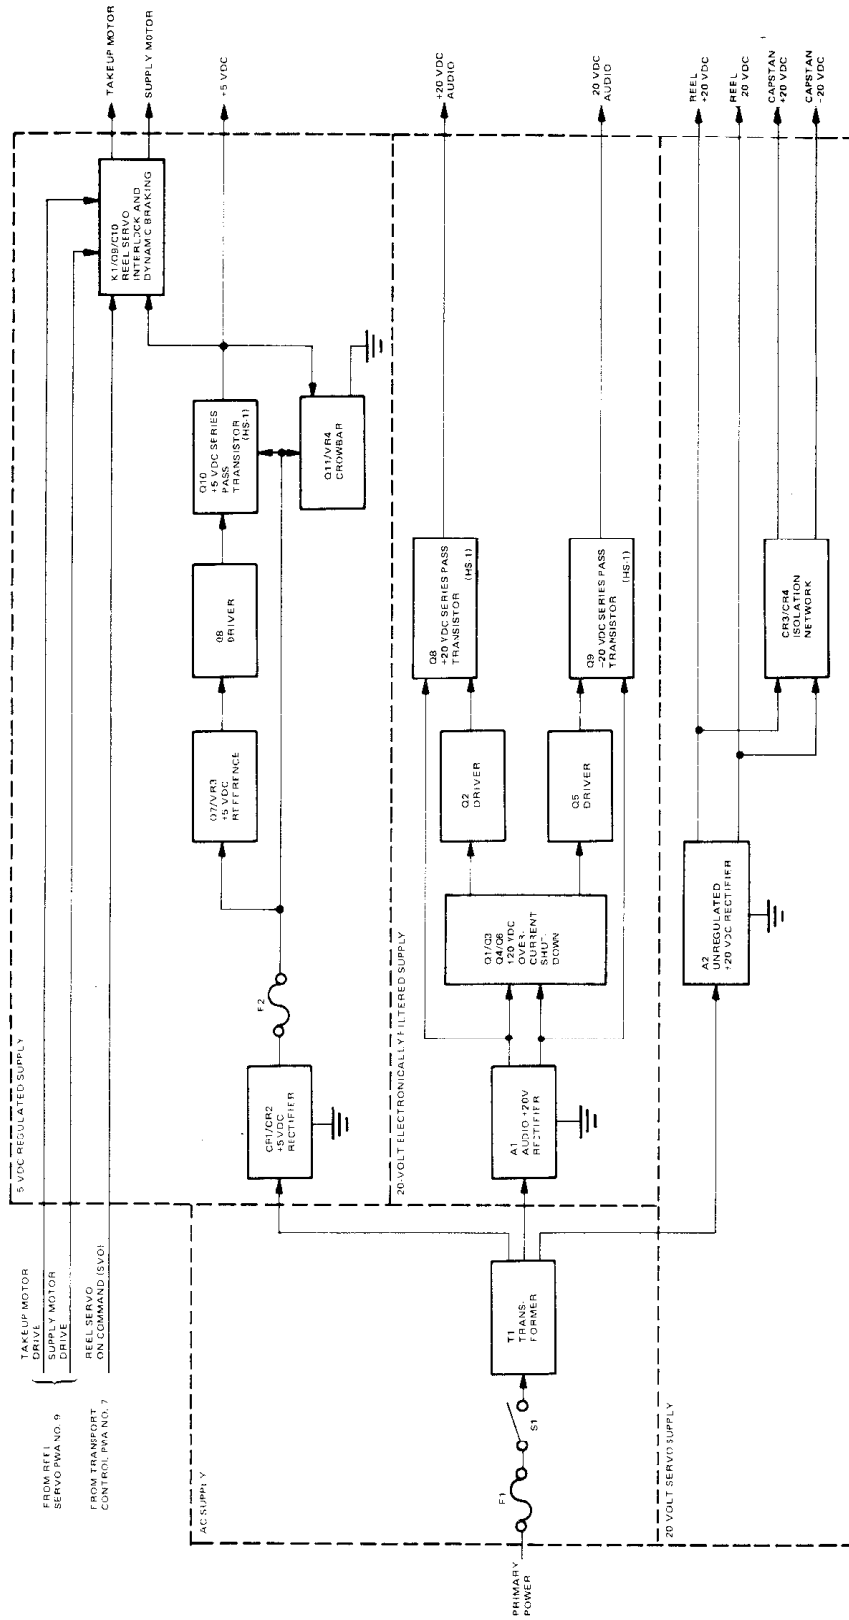

Figure 4-28. Power Supply Assembly, Simplified Block Diagram
The power supply assembly is a separate self-contained assembly with the exception of three series-pass transistors located on the transport assembly. Figure 4-28 is a simplified block diagram of the power supply assembly and drawing number 4840412 is the schematic diagram.
**4-96. AC Supply.** As shown in Figure 4-28, the main ac power to the power supply assembly is supplied to transformer T1 via fuse F1 and switch S1. Taps from transformer T1 to the switched main ac power are accessible via a jumper plug arrangement on the power supply assembly to allow the use of one of four input voltage ranges to be selected as the input to transformer T1 and to provide 115 Vac to the transport. The secondary of transformer T1 consists of three windings. One winding provides ac input to the 5-Vdc regulated supply. The other two windings provide the ac input to the 20-volt electronically filtered supply and 20-volt servo supply.